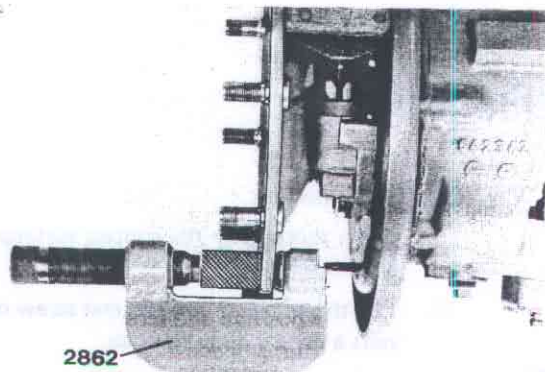

Fig. 77-3. Pressing in the wheel stud
5. Press in the new wheel stud with press tool 2862, see Fig. 77-3.